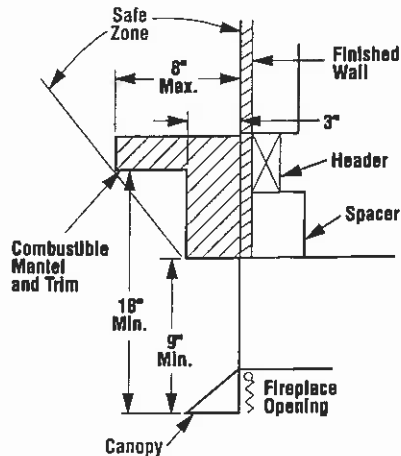

Figure 3
Noncombustible material (minimum requirements) with wood mantel or other combustible projections: To install the firebox with a wood mantel, shelf or other combustible projection above firebox opening. Refer to Figure 3.
**WARNING: THE CANOPY HOOD MUST BE IN PLACE TO BE IN COMPLIANCE WITH THE CLEARANCES SPECIFIED IN FIGURE 3. DO NOT REMOVE OR REPLACE CANOPY, ONLY USE CANOPY SUPPLIED WITH THE FIREBOX. DO NOT USE ANY CANOPY WHICH MAY BE PROVIDED WITH THE DECORATIVE TYPE UNVENTED ROOM HEATER.**